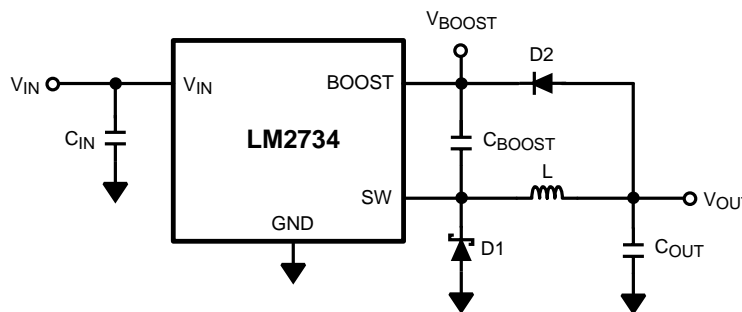

**Figure 7. LM2734Z Waveforms of SW Pin Voltage and Inductor Current**
The following operating description of the LM2734Z refers to the Functional Block Diagram and to the waveforms in Figure 7. The LM2734Z supplies a regulated output voltage by switching the internal NMOS control switch at constant frequency and variable duty cycle. A switching cycle begins at the falling edge of the reset pulse generated by the internal oscillator. When this pulse goes low, the output control logic turns on the internal NMOS control switch. During this ON-time, the SW pin voltage ( $V_{SW}$ ) swings up to approximately  $V_{IN}$ , and the inductor current ( $I_L$ ) increases with a linear slope.  $I_L$  is measured by the current-sense amplifier, which generates an output proportional to the switch current. The sense signal is summed with the corrective ramp of the
In *Functional Block Diagram*, capacitor  $C_{\text{BOOST}}$  and diode D2 supply the gate-drive current for the NMOS switch. Capacitor  $C_{\text{BOOST}}$  is charged through diode D2 by  $V_{\text{IN}}$ . During a normal switching cycle, when the internal NMOS control switch is off ( $T_{\text{OFF}}$ ) (refer to Figure 7),  $V_{\text{BOOST}}$  equals  $V_{\text{IN}}$  minus the forward voltage of D2 ( $V_{\text{FD2}}$ ), during which the current in the inductor (L) forward biases the Schottky diode D1 ( $V_{\text{FD1}}$ ). Therefore the voltage stored across  $C_{\text{BOOST}}$  is calculated using Equation 1.